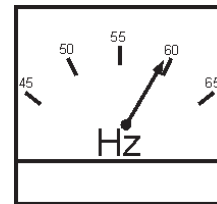

Figure 51. Frequency Meter (Hz)
13. The generator's frequency meter (Figure 51) should be displaying the 60 cycle output frequency in HERTZ.